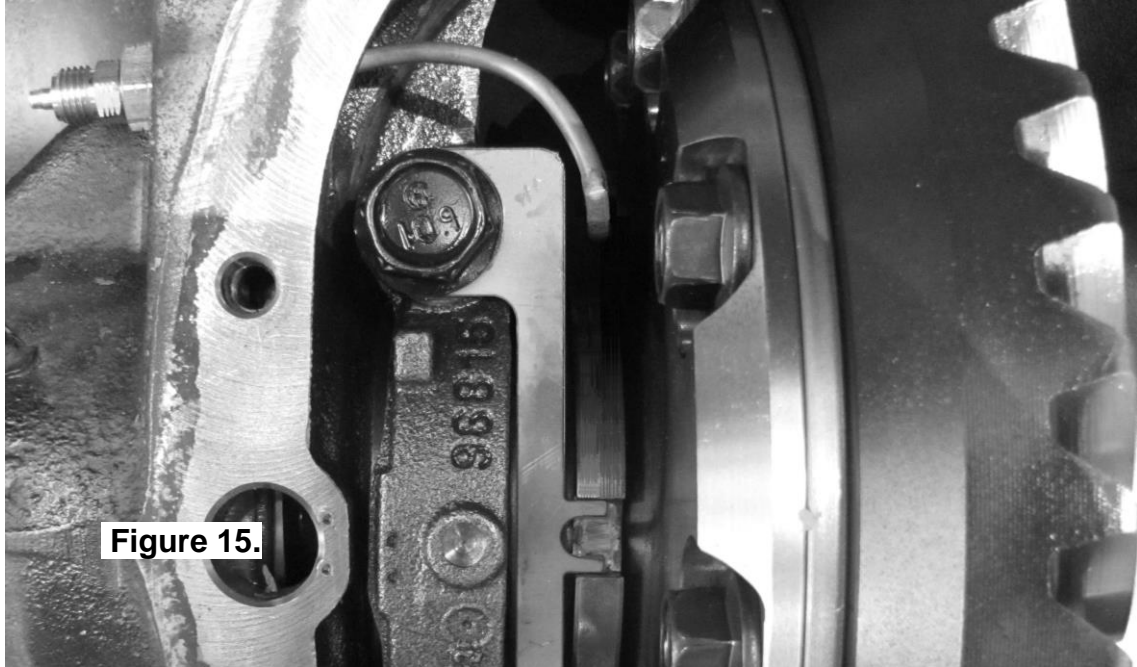

Figure 15.
- With the seal housing tube now firmly secured into the bulkhead fitting, bend the tube so that it closely follows the profile of the differential without interfering with the bearing cap, diff housing or *Air Locker* (Fig. 15.).